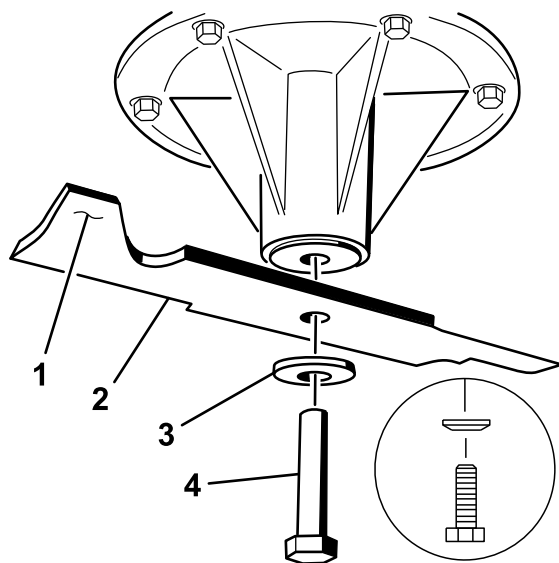

Figure 79
2. Remove the left and center blade bolt, curved washer, and blade from the spindle shaft (Figure 79).
3. Remove the right blade bolt (left threaded bolt), curved washer, and blade from the spindle shaft (Figure 79).
1. Install the left and center blades, curved washers, and blade bolts to the spindle shafts (Figure 79 and Figure 80).
Note: Install the curved-washer cone towards the bolt head (Figure 79).
2. Install the right blade, curved washer, and blade bolt (left-threaded bolt) to the spindle shaft (Figure 79 and Figure 80).